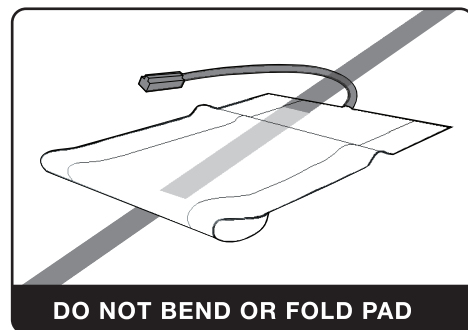

Fig. 3.2
8. Remove the adhesive tape backing from the bottom side of the seat heater pad and carefully place the pad on the seat in the desired location. The holes you cut should align with the listings or velcro attachment locations. Make sure pad is not bent and folded (See Fig. 3-2 on page 5). This step is crucial in maintaining safety and warranty of this product. You can also use the Adhesive Insulation Sheet from the kit to secure properly.